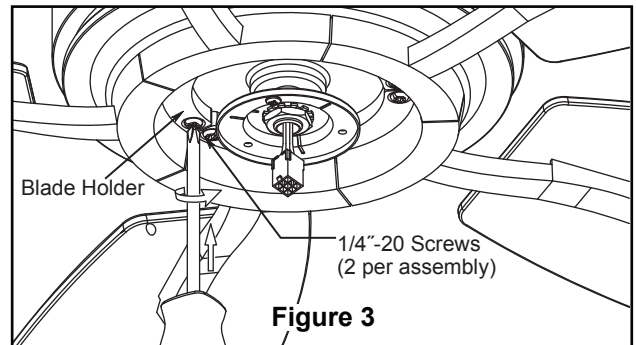

Figure 3
3. Secure the blade holders to the bottom of the motor assembly using the 1/4"-20 screws from the hardware bag. (Figure 3)